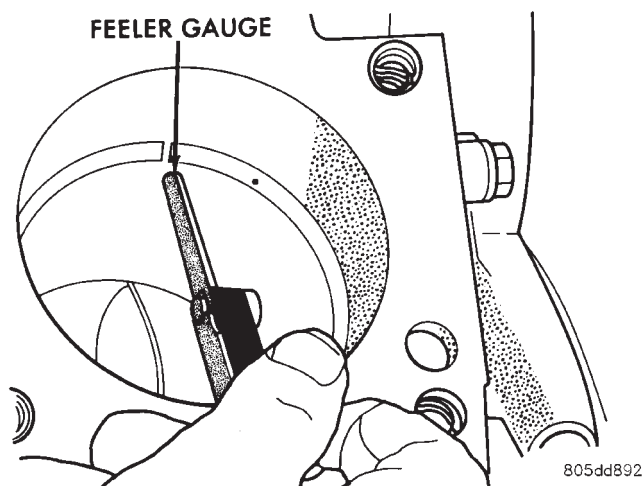

Fig. 9 Gap Measurement
(4) Place ring in the cylinder bore and push down with inverted piston to position near lower end of the ring travel. Measure ring gap with a feeler gauge fitting snugly between ring ends (Fig. 9).